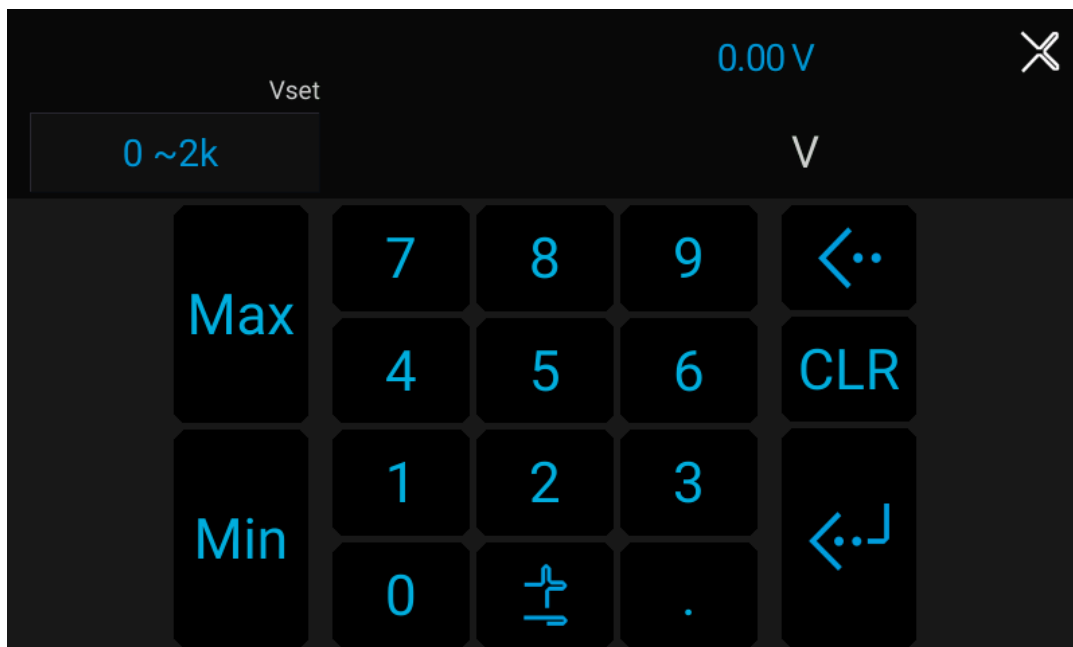

Figure 3-2
1. Tap V next to the numbers of Vset, and the touch panel will switch to a numeric keypad as Figure 3-2 shows.